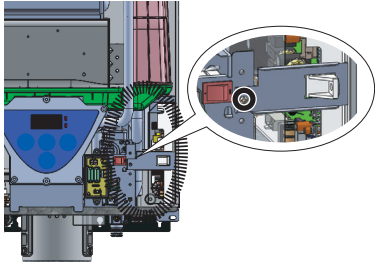

Figure 1
3. Remove the front cover and remove the screw as shown in the following to pull out the PCB. (Figure 1 on p. 68)